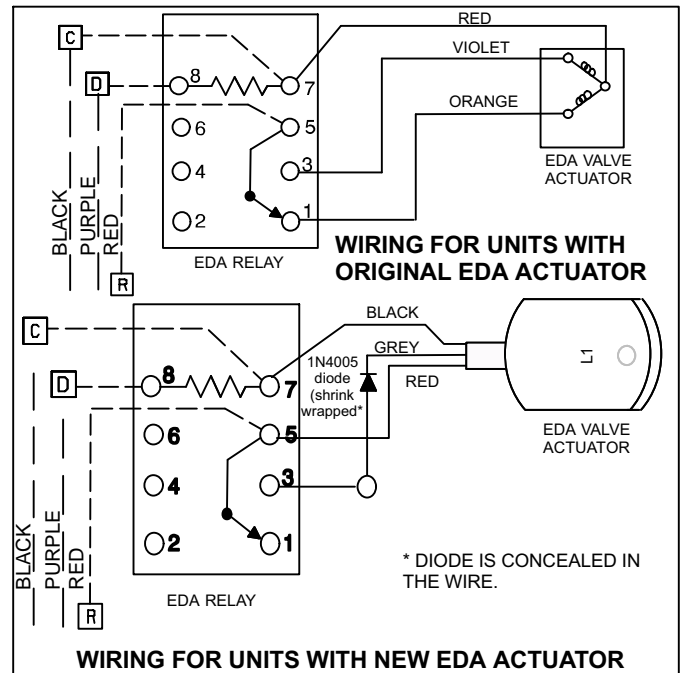

Figure 4. Wiring for actuators
3. Connect EDA Actuator wires to the EDA relay as shown in figure 4. **Note that the old and new actuators are connected differently.**